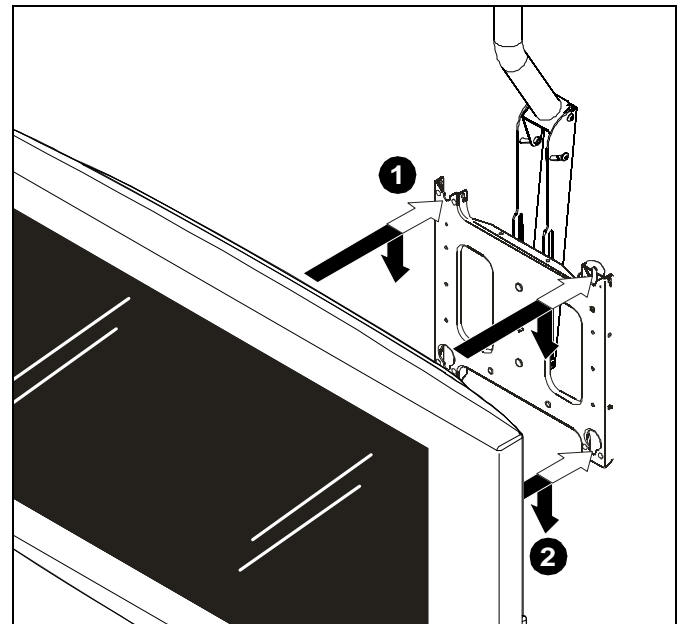
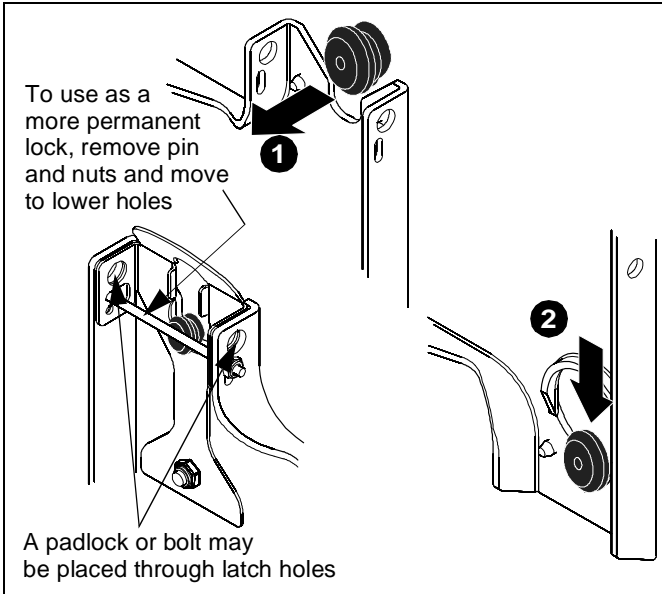

Figure 3
Figure 4
2. While supporting both sides of display, align four mounting buttons on interface bracket with four mounting holes in faceplate. (See Figure 3)
3. Lower display into place listening for audible "click" to ensure recessed area of mounting buttons are properly seated in lower area of mounting holes, and "click lock" mechanism has engaged. (See Figure 3) and (See Figure 4)
**NOTE:** Holes are provided in the faceplate for use with a padlock or similar locking device, if desired. In addition, the pin and nut may be removed from the upper holes and moved to the lower holes for use as a more permanent locking device. (See Figure 4)